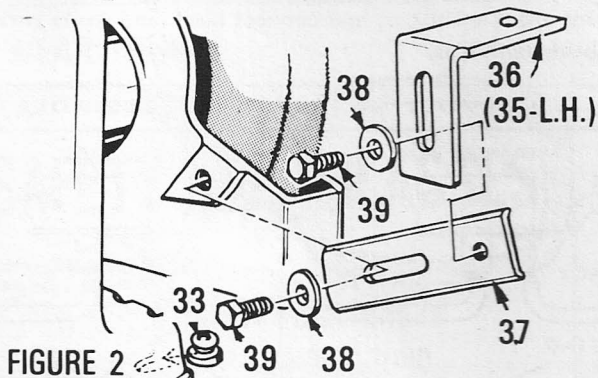

FIGURE 2
- Attach tool rest arms (37) to inner side of wheel guards (9 & 21) using flat washers (38) and bolts — 5/16-18 x 3/4 (39) as shown. Attach tool rests (35 & 36) to tool rest arms using bolts (39) and washers (38). Adjust as desired and tighten. See figure 2.
- Insert 4 base bushings (33) in slots provided at each corner of base as shown in illustration. *Thick section of bushing extends below grinder base.* See figure 2.